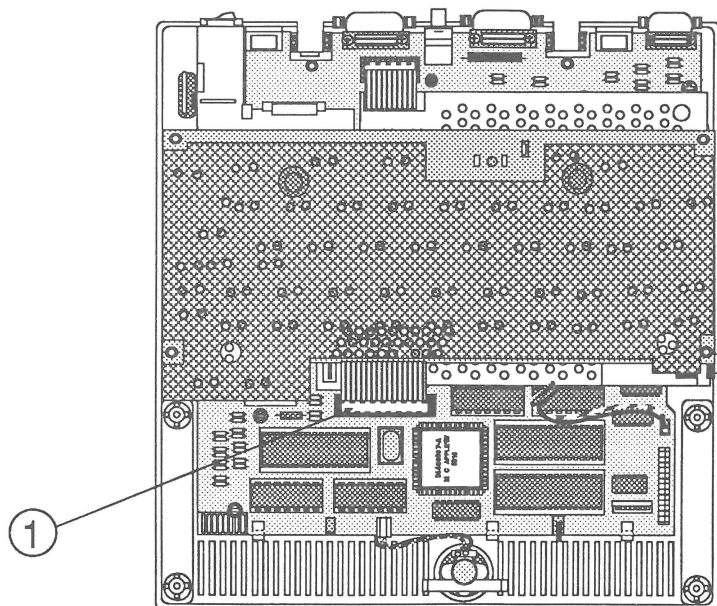

FIGURE 3
2. Lift the keyboard up and disconnect the keyboard cable from logic board connector J9 (Figure 3, #1).